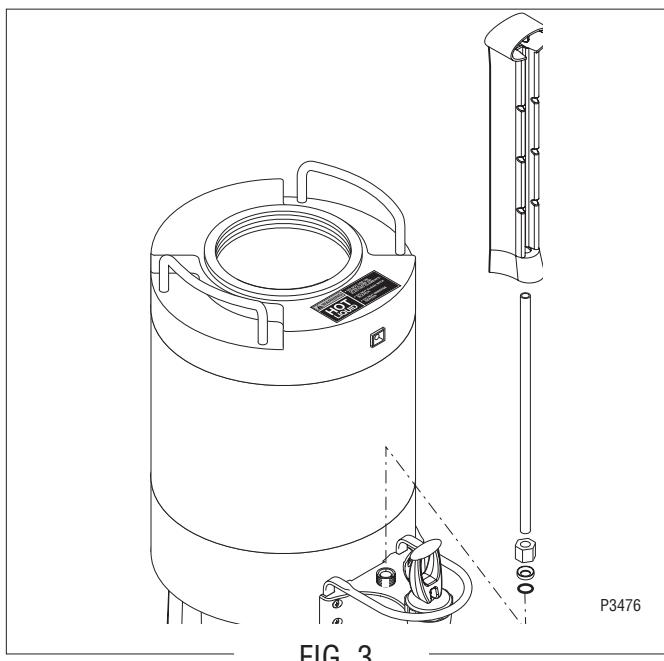

FIG. 3
- When the nut is loose, remove the sight gauge assembly (nut, ferrule, o-ring, sight gauge, shroud, and sight gauge backing) from the Faucet spout. (FIG. 3)